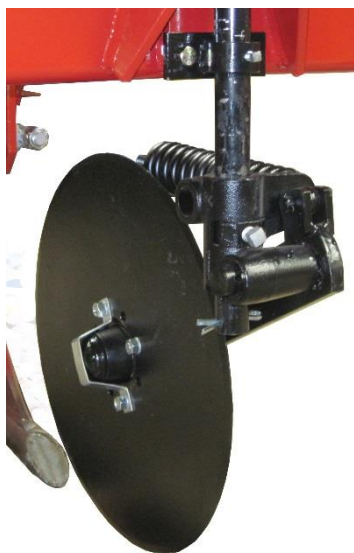

Figure 9: Completed Coulter Assembly
- e) Bolt the coulter blade to the coulter arm. Adjust the height of the coulter blade so the bottom of the blade is aligned with the top of the torpedo tube. If the center line of the coulter blade is not aligned with the center of the knife, loosen the coulter shank clamps and reposition them to move them into alignment. Position the coulter clamp so the coulter is free to swing around an arc centered on the knife and torpedo tube. Assembly of the coulter assembly is now complete and should appear similar to that shown in Figure 9.